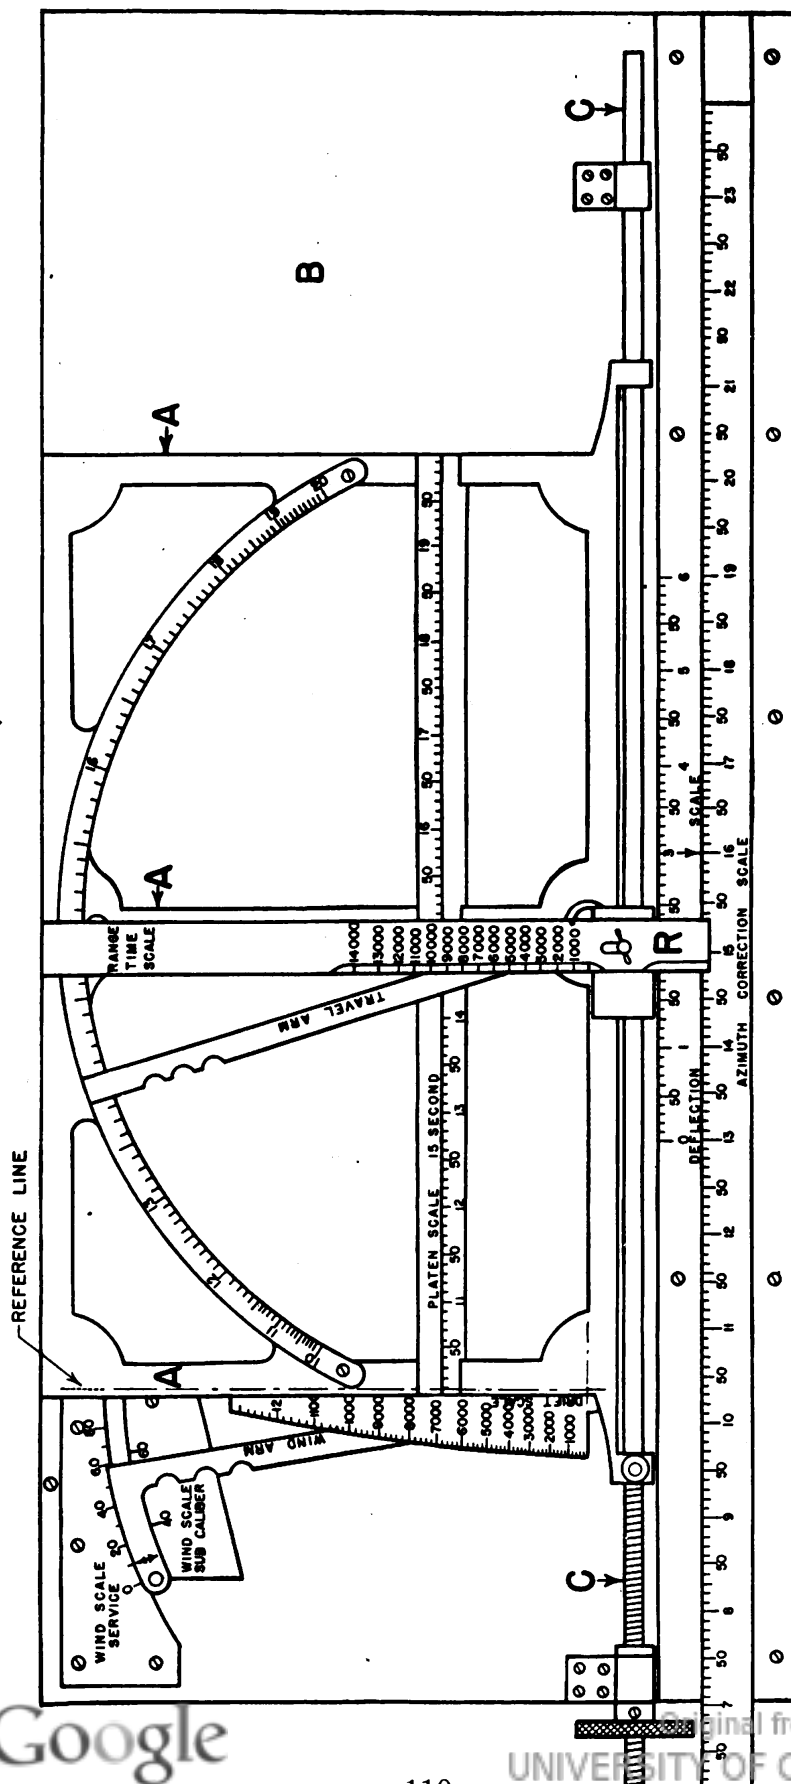

FIGURE 47.—Gun deflection board M1905.
A. See figure 47.
(1) Set the wind arm to the proper reference number, as indicated by the wind component indicator.
(2) Set the travel arm (reading edge) for the travel reference number obtained from the plotting board.
(3) Set the platen so that the point of the drift scale corresponding to the corrected range, obtained from the range percentage corrector, will be accurately over the right-hand edge of the wind arm.
(4) Set the range-time scale so that the point of its scale corresponding to the corrected range obtained from the range percentage corrector will be accurately over the reading edge of the travel arm.
(5) Set the lateral adjustment correction, obtained from the range officer, on the azimuth correction scale at the normal of the deflection scale.
(6) The beveled edge of the range-time scale then indicates on the azimuth correction scale the corrected deflection to be used on the sight with case I or II.